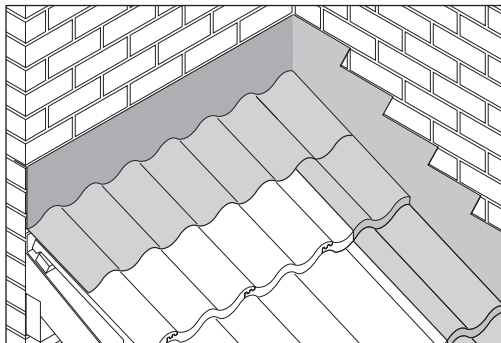

Fig 64 – Top edge abutment
- Dress lead to profile of tiles (Fig 64).